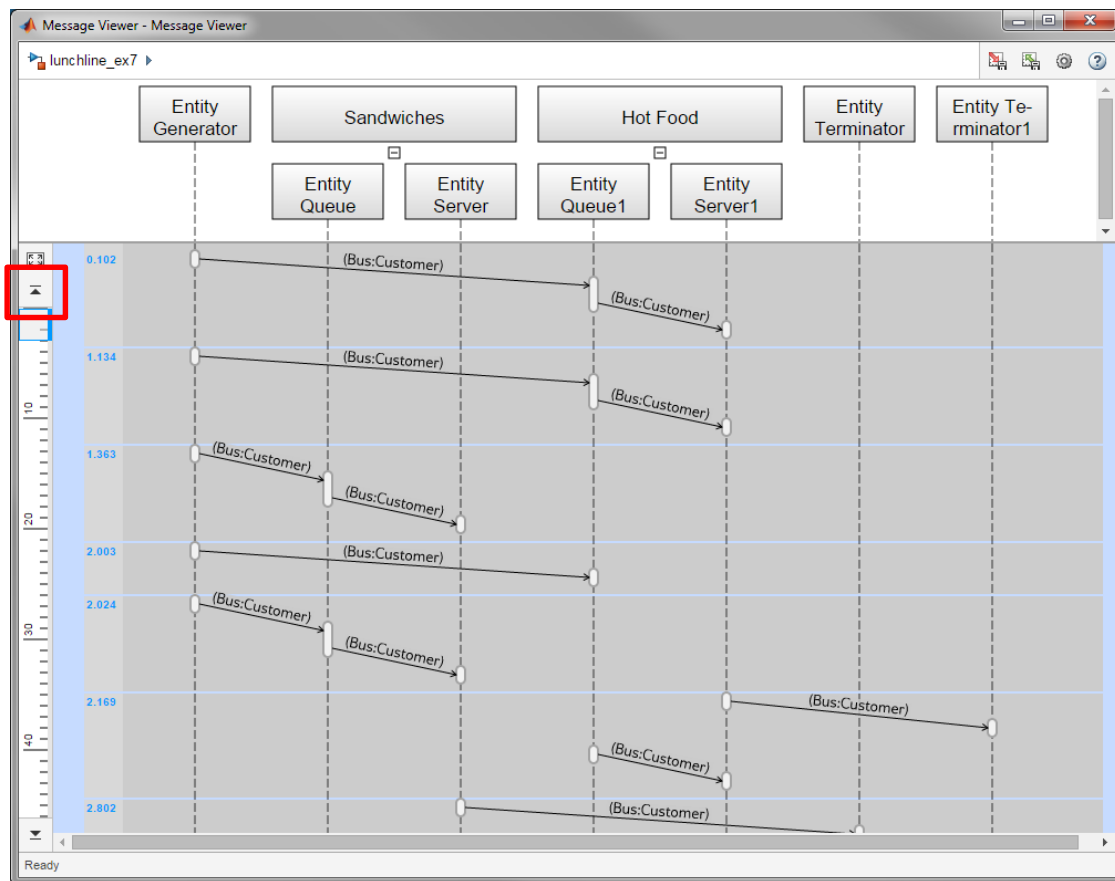

Figure 32: The Message Viewer window
4. Rearrange the blocks at the top of the window into the order as shown in Figure 32 (or any order you wish). You can expand the Sandwiches and Hot Food subsystem blocks by clicking on the + sign.
5. Navigate to the first event in the timeline by clicking the “Go to First Event” button, which is highlighted in red in Figure 32.